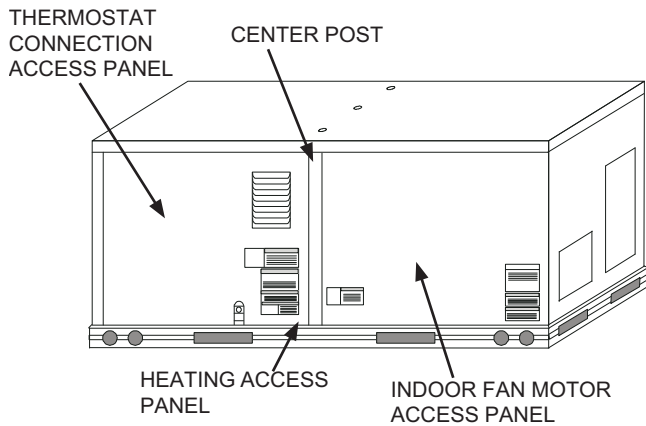

Fig. 9 — Typical Indoor Fan Motor Access Panel Locations
13. Remove the indoor fan motor access panel. (See Fig. 9.)